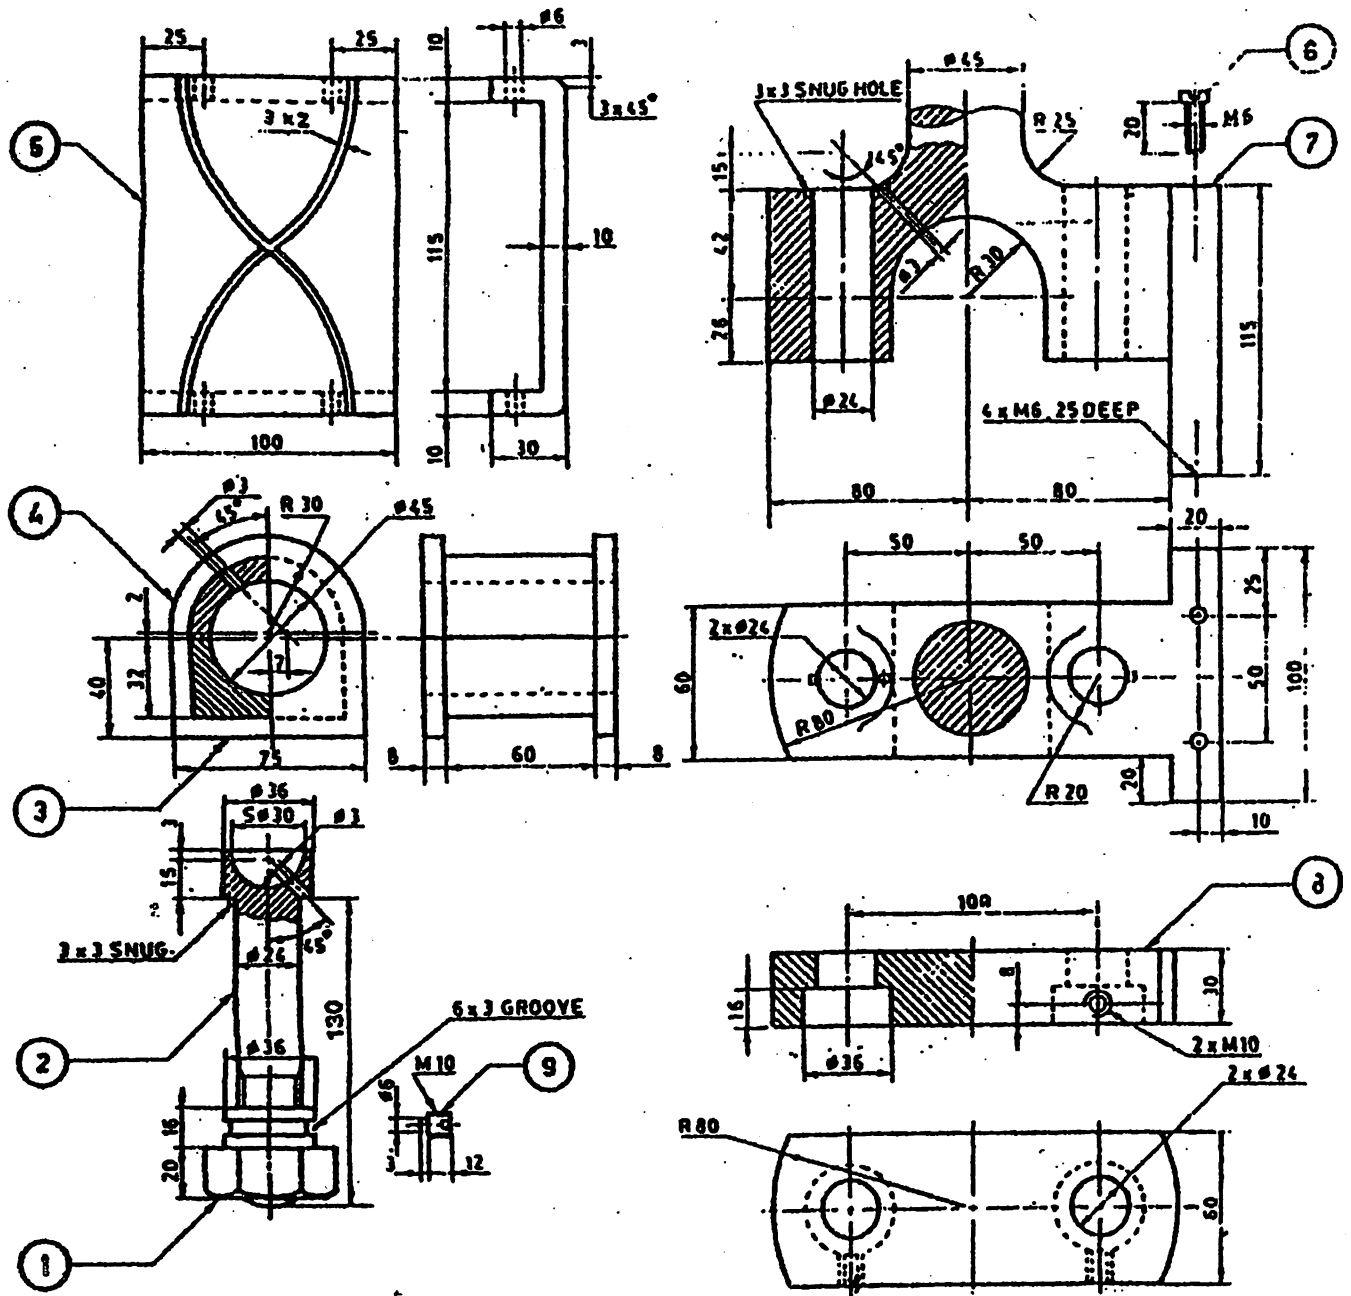

Figure 3
- V. Details of a cross head are shown in figure 3. Draw the following assembled views showing all dimensions (i) Elevation right half in section (ii) Plan. (40)